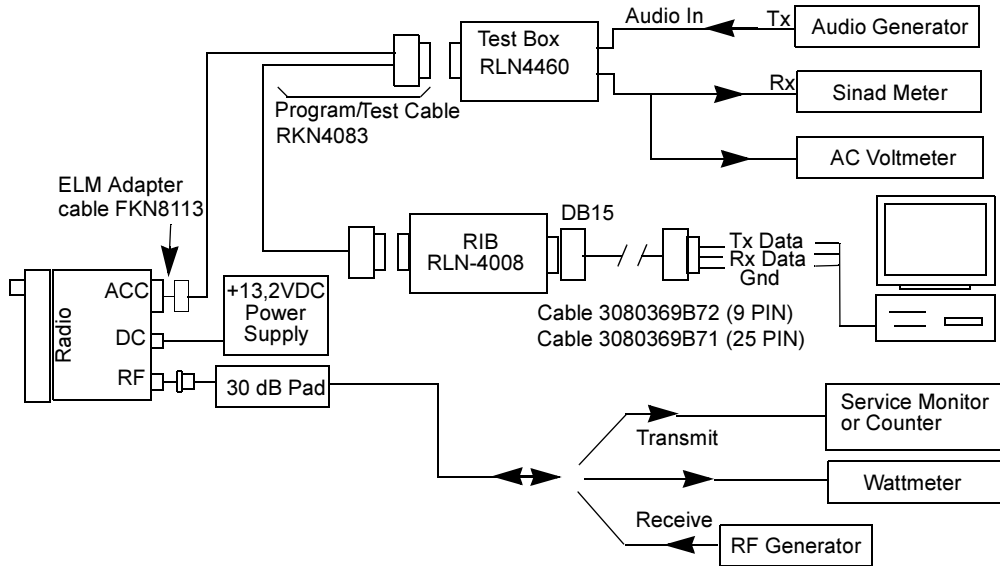

Figure 4-6 Radio Tuning Test Equipment Setup with External RIB
A personal computer (PC), Windows 95/98/NT and a tuner program are required to tune the radio. To perform the tuning procedures, the radio must be connected to the PC, radio interface box (RIB), and test equipment setup as shown in Figure 4-6.